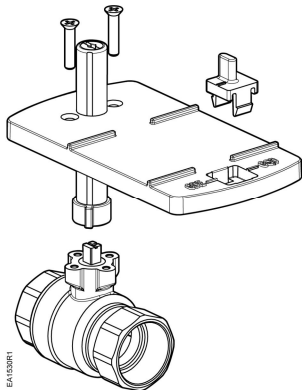

Figure 3.
1. Insert the ball valve bracket shaft through the bottom of the bracket. See Figure 3.
3. While holding the shaft in the appropriate orientation, assemble the bracket to the valve using the two screws provided. See Figure 3.